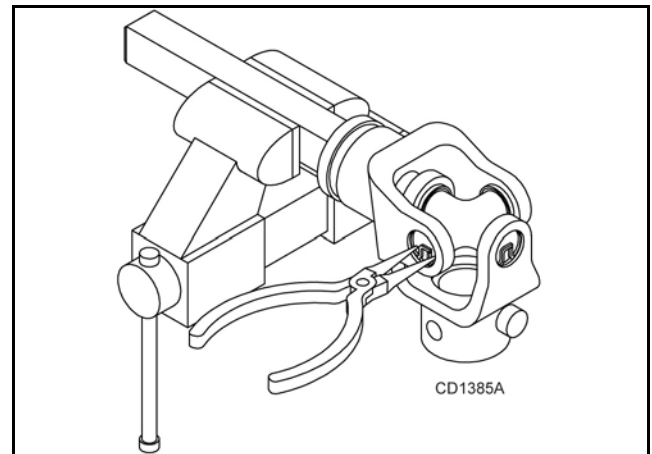

Figure 14
1. Remove external snap rings from yokes in four locations as shown in Figure 14.